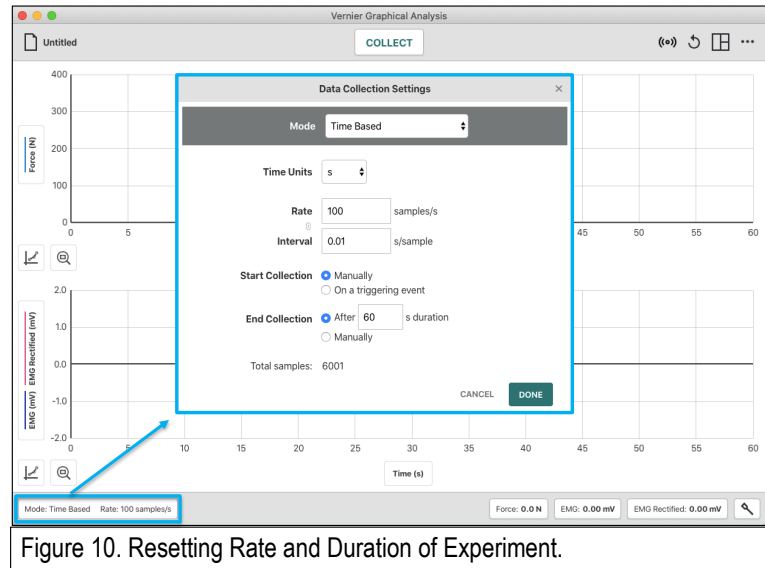

Figure 10. Resetting Rate and Duration of Experiment.
- Reset Rate and Duration: Click on the “Mode” Button on the bottom left. Change The “Rate” to 100 per second (sampling frequency) and the Duration (“End Collection after”) to 60 seconds (Fig. 10).